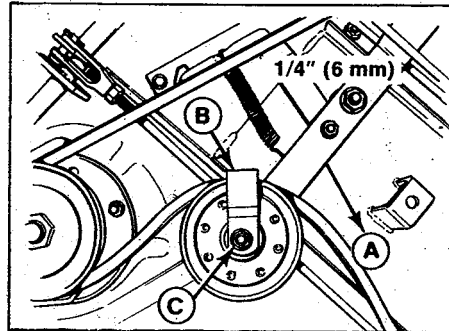

Figure 42. Idler Pulley Belt Guide
Adjust guide to obtain 1/4 inch (6 mm) from idler arm (figure 42). Loosen nut (C) to adjust. Recheck measurement.